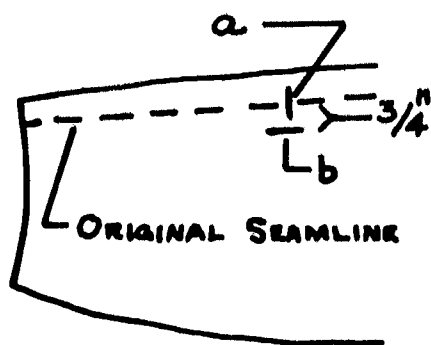

Figure 37.
6. Make a chalk mark at the hip line (see "a" on Figure 37). Divide the amount to be taken in at the hips in half and make a mark this distance from the seamline. For example, if the skirt is to be taken in 1-1/2 inches, a mark would be made 3/4 inch from the seamline (see line "b" on Figure 37).